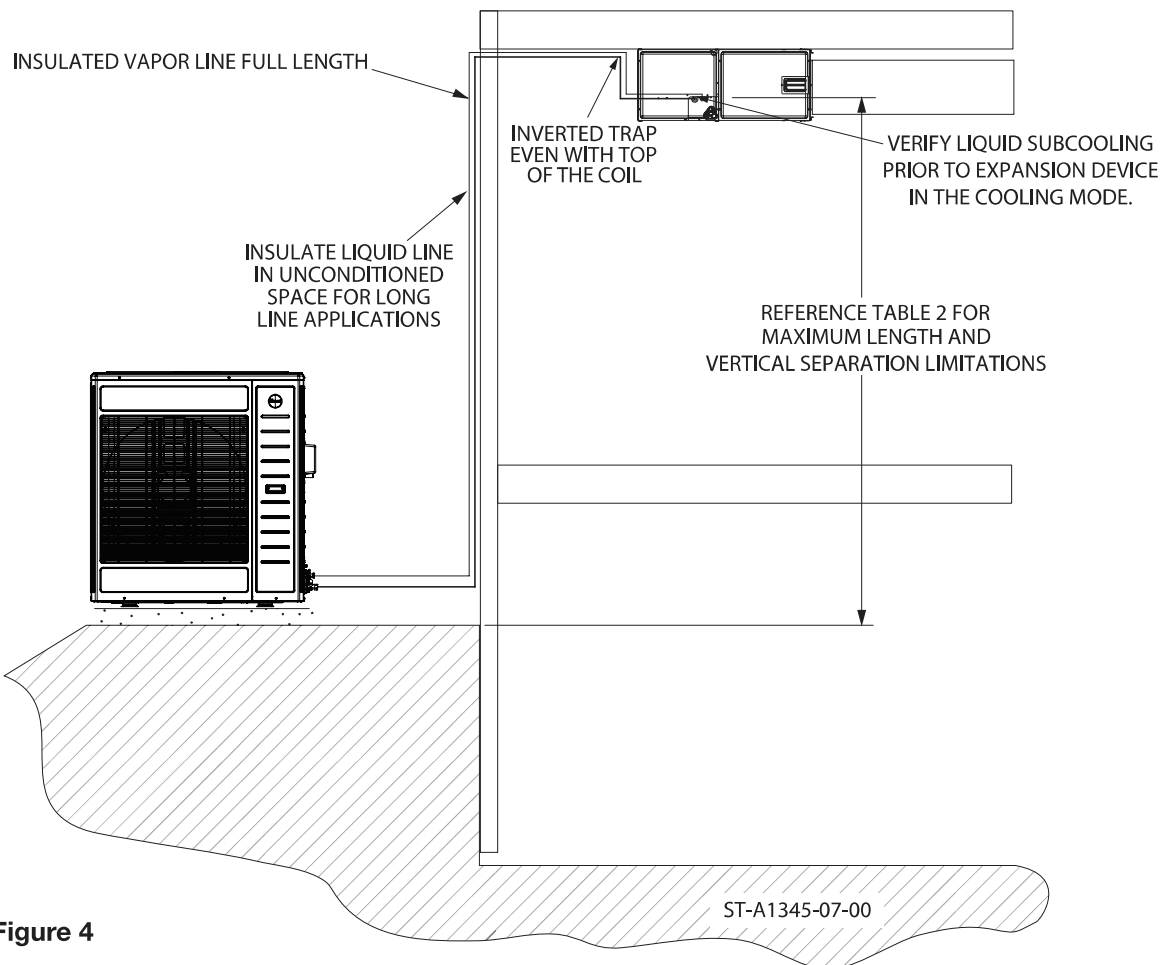

Figure 4
- Inverted vapor-line trap (Reference Figure 4)